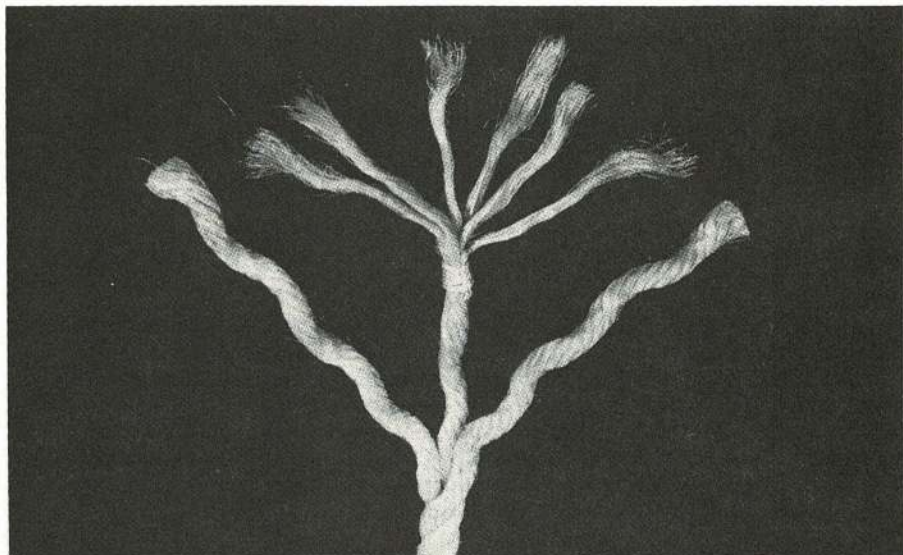

Fig 5 Hawser-Laid Hemp Rope
5. A vegetable fibre hawser-laid rope (Fig 5) is often called a hemp or manila rope because it is made of fibres from Italian hemp or from the abaca plant grown in the Philippines of which the city of Manila is the capital. These fibres are short, between .61 metres (2 feet) and 1.22 metres (4 feet) long, and they have to be spun very tightly into yarns to bind them firmly together so that they hold by friction when the yarn is subjected to strain. The yarns are then twisted together to form a strand about 275 metres (900 feet) long but when three such strands are twisted together to form a rope the length of the rope contracts like a coiled spring and becomes about 220 metres (720 feet) long. Such a rope is light, strong and flexible and it has enough stretch to absorb shocks without breaking, but because of its vegetable nature, it will rot quickly (in spite of being rotproofed) if left or stored damp. In any case it will deteriorate (become weaker) with age. It also contracts, tightens and becomes stiff and difficult to manage when wet or frozen. Thus, although it is a good cheap rope for many domestic circumstances it is unlikely to be used in circumstances where one's life might depend on its strength, eg in mountaineering.